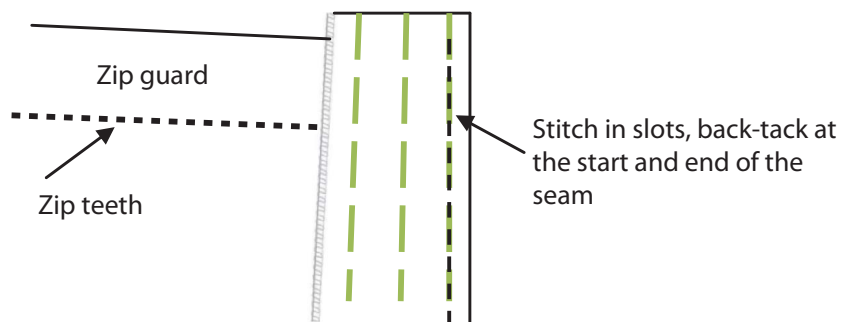

Figure 3
2. Use the Three Thread Overedge stitch (504) to neaten one side of the waistband.
3. Turn the garment through to the correct side, place the correct side of the waistband to the correct side of the garment and align the non-neaten edge of the waistband with the waist of the garment, leaving approximately 1cm protruding beyond the zip guard. Using the Lockstitch (301), sew in the slots attaching the waistband onto the garment, back-tacking at the beginning and end of the seam (see Figure 3).